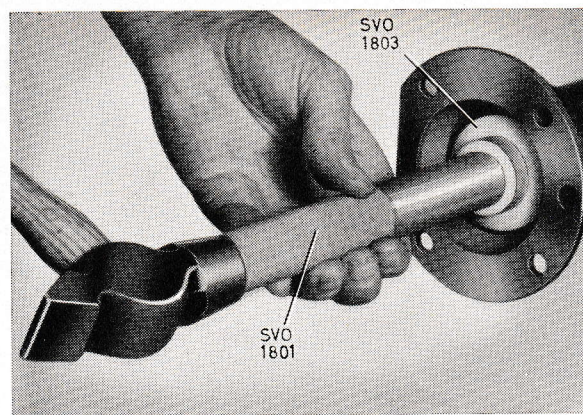

Fig. 4. Fitting the seal ring.
4. Drive in the new seal ring. Make sure that it lies correctly. Use tool SVO 1803 as shown in Fig. 4.